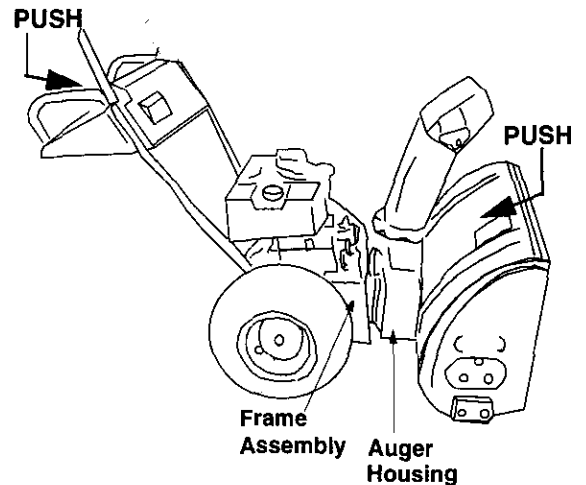

Figure 29
- While lifting up on the handles, bring the frame assembly close to the auger housing, and place the two belts on the front and rear engine pulleys. See Figure 29.